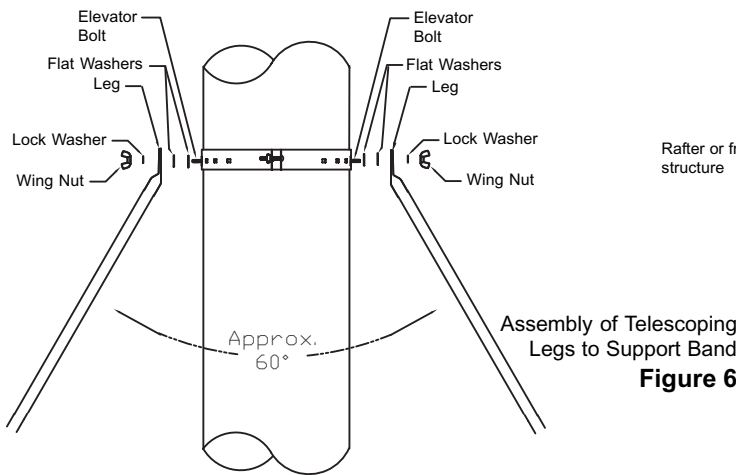

Figure 6
- G. Place a flat washer on the elevator bolts and attach the top portion of each of the telescoping legs to the 2 elevator bolts on the Support Band with washers and wing nuts (see Figure 6). NOTE: Top portion of each leg can be bent at an angle using claw of hammer.
- K. The two telescoping legs should form an angle of about 60° to give support to the chimney in all directions. The angle of the telescoping legs should be approximately 45° from vertical when fastened to the roof (see Figures 6 & 8).